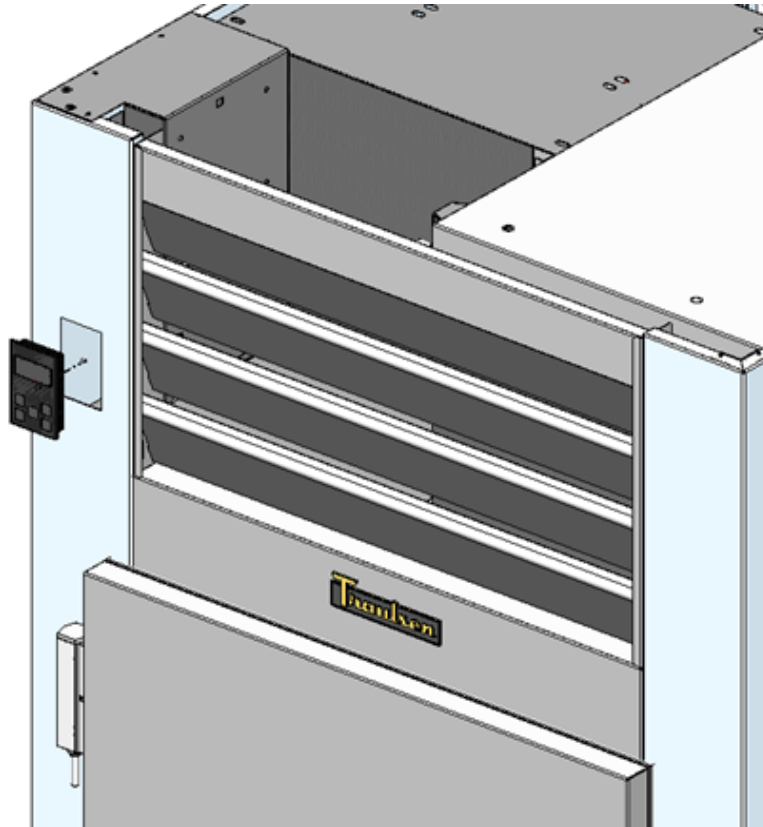

Fig. 4.12.1 Display Removal
Remove bottom louver screws & rotate louver up out of the way. Disconnect cable from the back of the controller. Lastly, squeeze the (4) tabs holding on the back side of the display & push outward to remove the display. See figure 4.12.1.